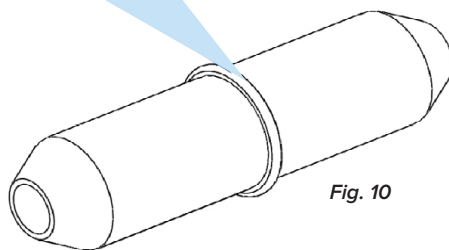

Fig. 10
2. After disassembly is completed inspect the plastic tube connector (Item #2 in Sec 1.1). If it looks worn, as seen figure 10 below then replace with a new one.